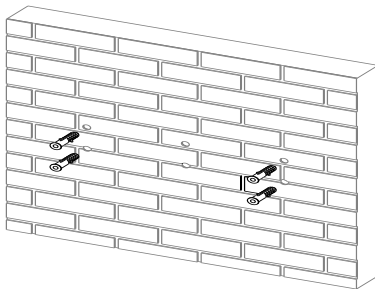
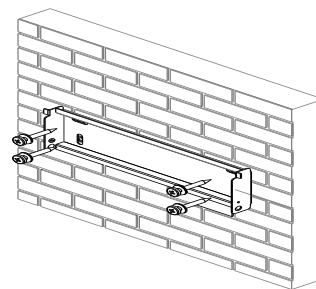

FIG.6-7 Install Expansion Anchors
FIG.6-8 Fix Wall-mounting Bracket
2) Drill expansion anchors into the corresponding four holes, and then fix the wall-mounting bracket to the wall with self-tapping screws (spec, ST 6.3 x 50), as per FIG. 6-7 & FIG. 6-8.